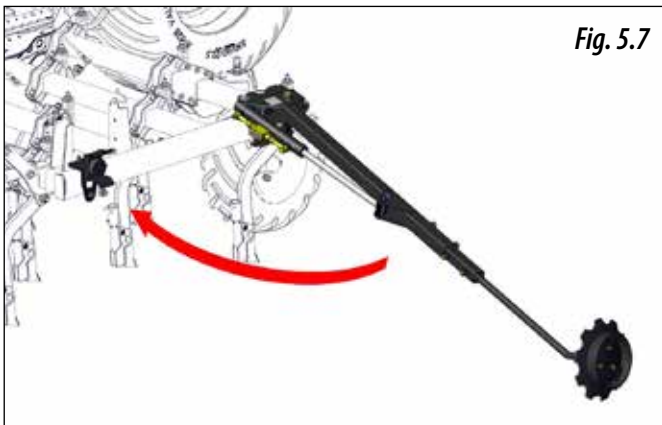

Fig. 5.7
- 1- Fold the track markers if the machine is equipped with them (Fig. 5.7).